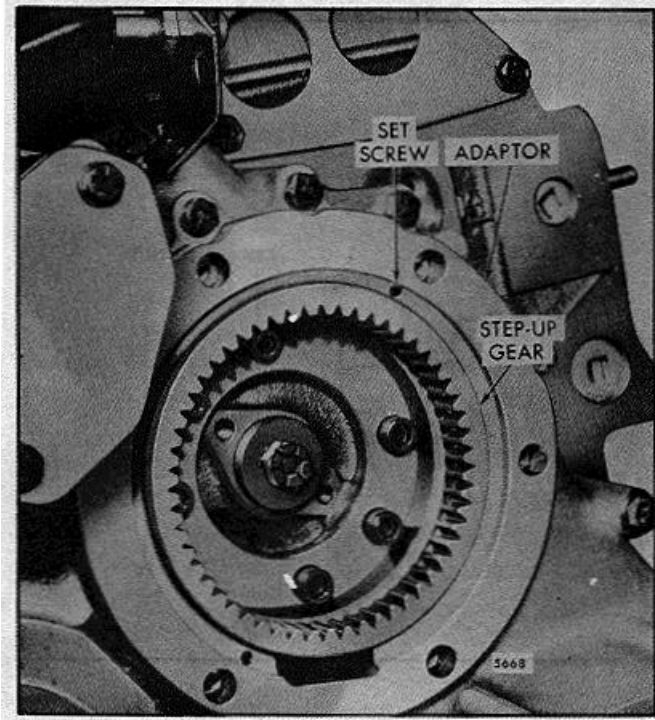

FIG.. 6 - Step-Up Gear Drive Mounting
On some coach engines, a step-up gear is attached to the right-bank camshaft gear with six Allen head bolts and lock washers to drive the battery-charging alternator (Fig. 6). The alternator mounting adaptor is attached to the flywheel housing. Two set screws are used to adjust and hold a clearance (maximum .002" runout) between the outer flange of the step-up gear and the alternator adaptor.
5. If a step-up gear is used, refer to Fig. 6 and proceed as follows: